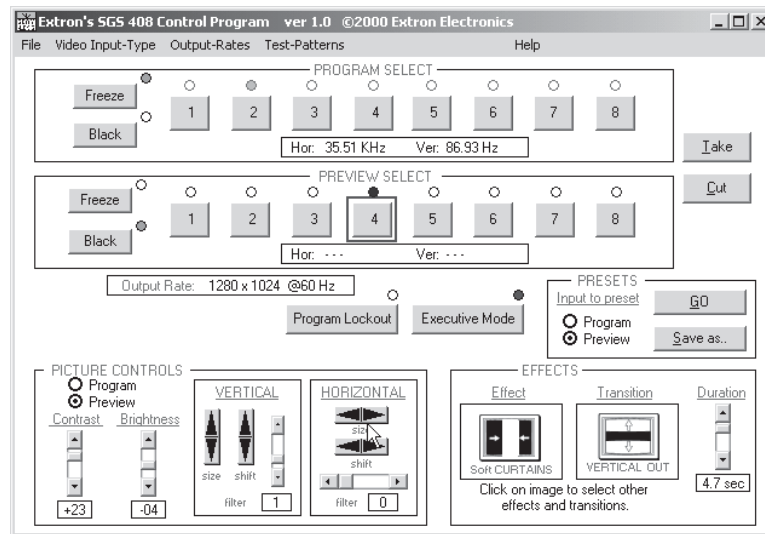

Figure 4-2 — SGS 408 Control Program window
2. Click on the comm port that is connected to the RS-232 port of the SGS 408. The SGS 408 Control Program window appears (figure 4-2). It displays the current settings of the SGS 408.